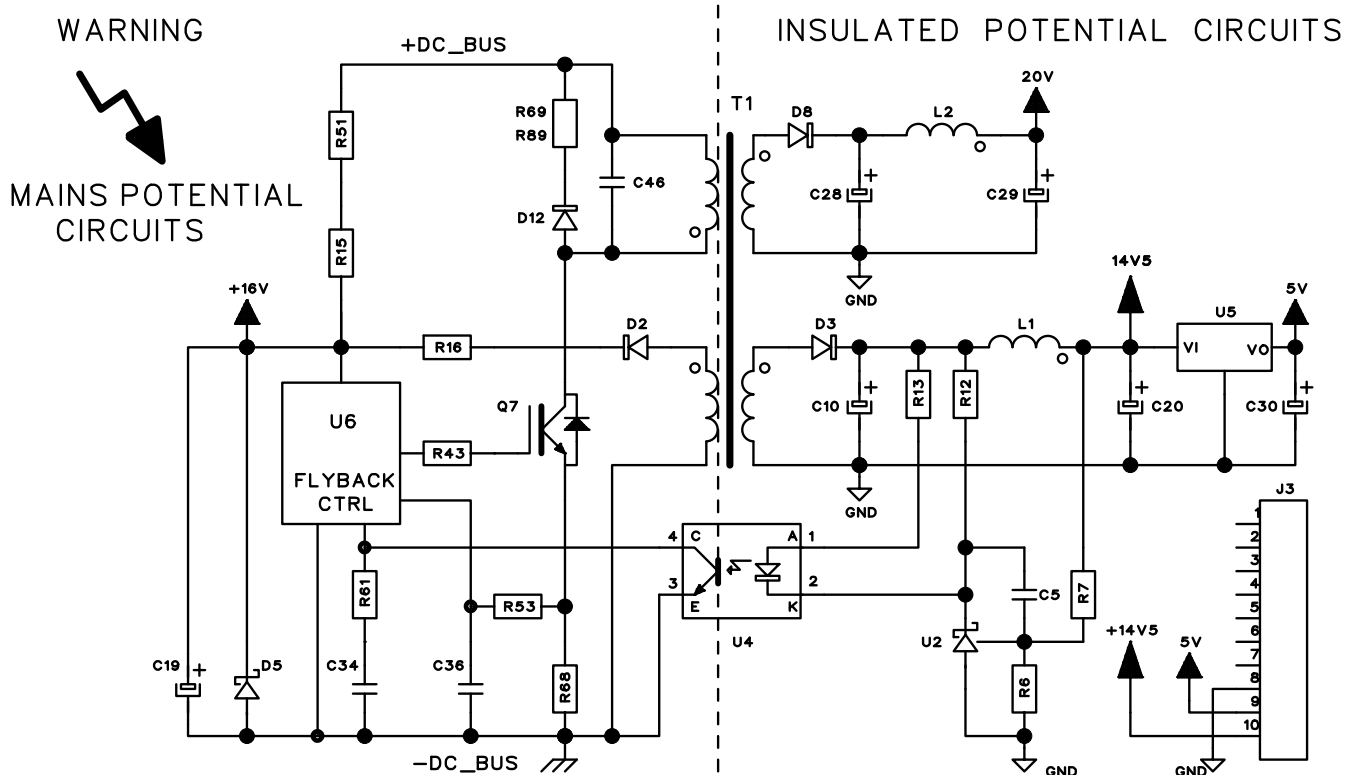

Fig. 2.3.2
These voltages are measurable on the connector J3 and on D8 and D5 diodes cathode, on power board (15), as indicated in Fig. 2.3.2.
- Power board (15), terminals ++ and - of the DC-capacitors C56, C57, C58 (are parallel connected between them) = +330 Vdc approximately, after switch (5) closing; +375 Vdc, after start-up phase, 5 s approximately.
- ♦ If the voltage remains at +330 Vdc check the boost converter circuits (U3, Q17, Q22 ÷ Q24, D45, etc.) and the voltage on D5 of power board (15), as indicated in Fig. 2.3.2 (flyback and boost converter circuits power supply).
- Power board (15), connector J3, terminals:
- 8(-) - cathode D8(+) = +20 Vdc,as indicated in Fig. 2.3.2 (power board (15) circuits power supply).